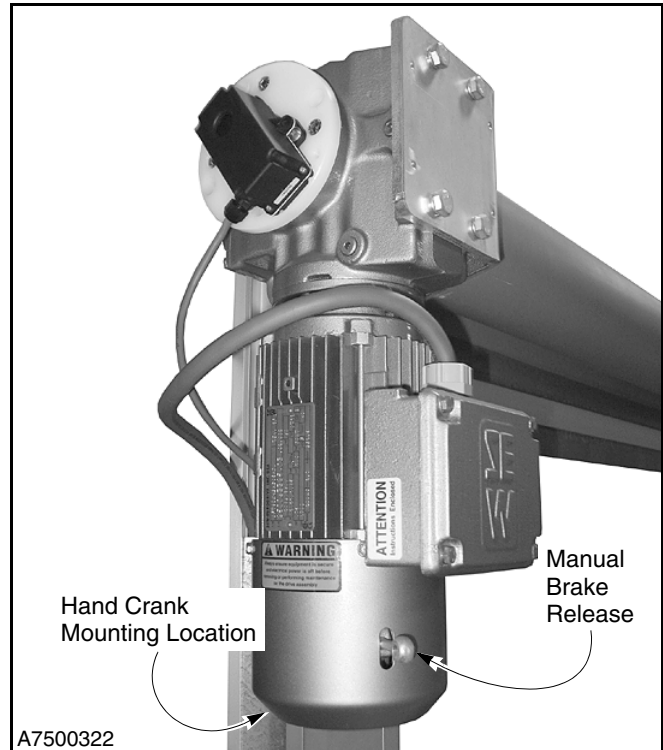

Figure 7
- a. Partially pull down and hold the manual brake release to disengage the brake. Allow the door to close smoothly to the desired height. (See Figure 7.)